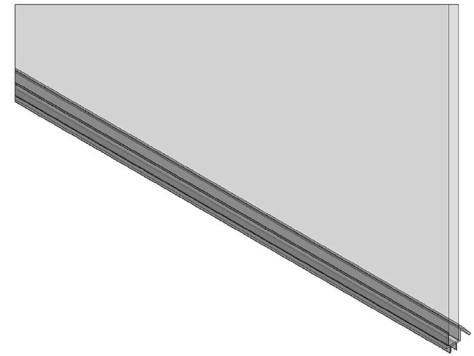

FIGURE 17A
ZV 982 Bottom Sweep (L) - This is attached by pressing it on bottom of door while door is open. Wood block should have been removed. (See Figure 17A)